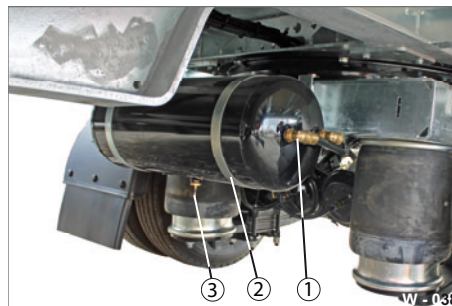

Fig. 38 Chassis underside
- Check that the screw fittings (Fig. 38/1) are secure.
- Replace damaged hoses and pipes (Fig. 38/2).